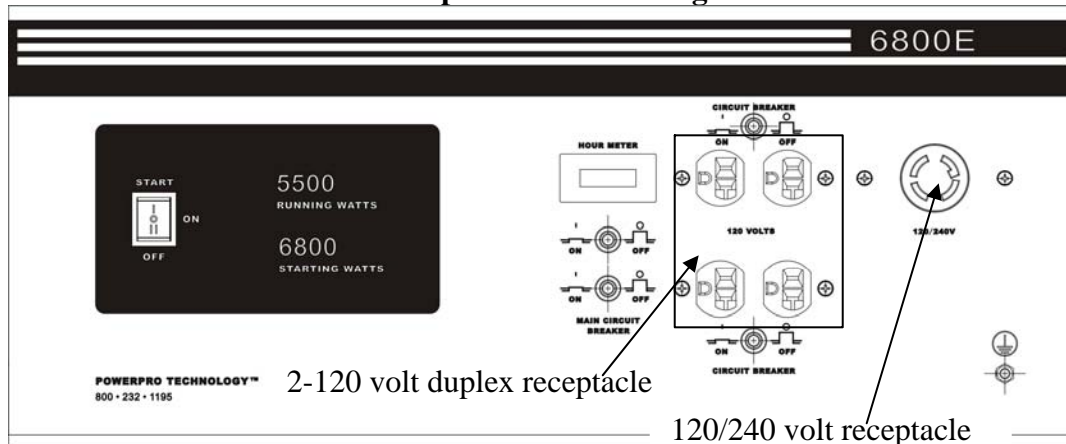

Figure 11- Receptacles available on the generator
1. Plug in each electrical device with the device turned off. **NOTE:** Be sure to attach appliances to the correct receptacles (outlets). Connect standard 120 Volt, single phase, 60 Hz loads **only** to the 120 Volt receptacles. Connect 120/240 Volt, single phase, 60Hz loads with a NEMA L14-30 plug **only** to the 120/240 Volt receptacle See Figure 11 for a depiction of each of these receptacles.